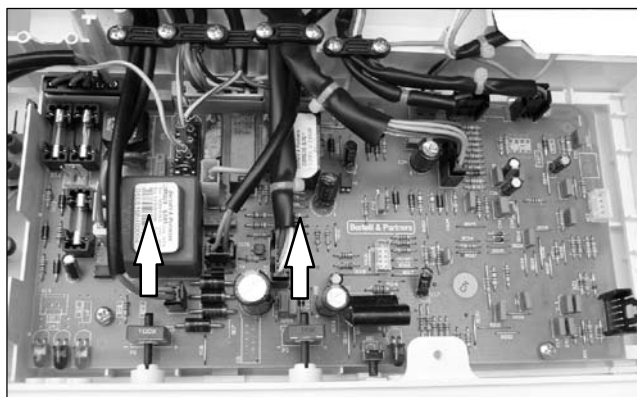

Fig. 9.18
- 3 Remove the spindles of the c.h. and d.h.w. temperature adjustment knobs by delicately pulling them with pliers in the direction shown by the arrow in Fig. 9.18.